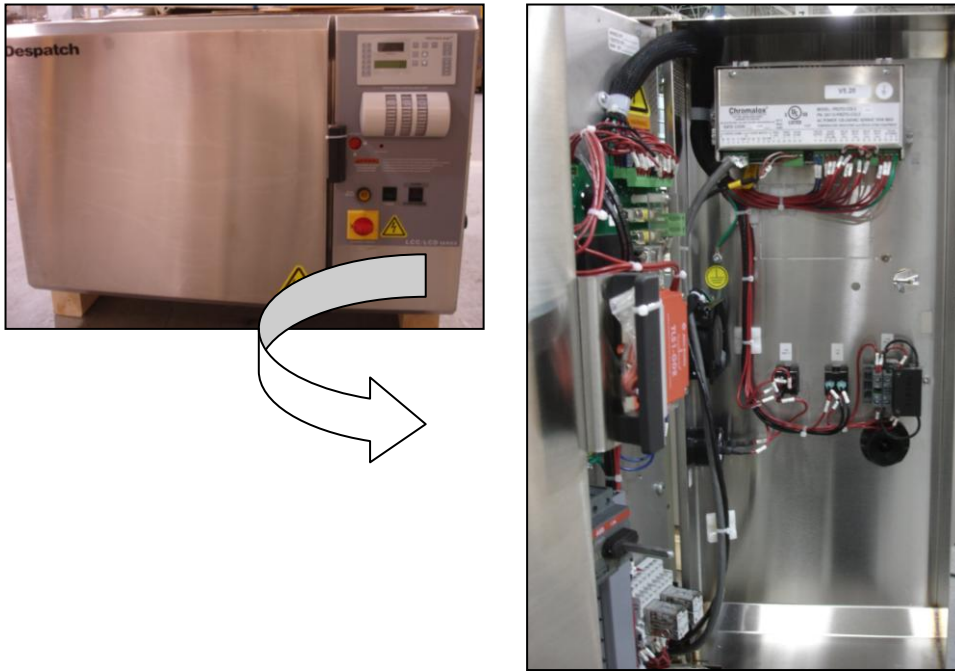

Figure 8. Open the front panel for access.
- Access the conduit and Disconnect Switch by opening the front panel (Figure 8).